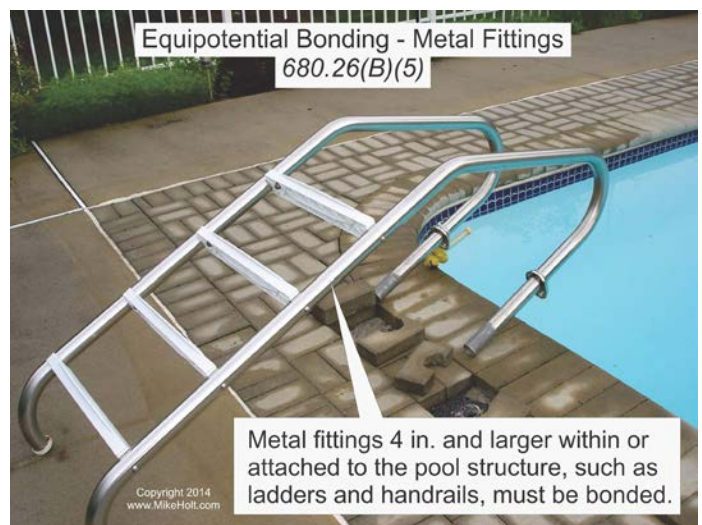

Figure 680-44
(3) Metallic Components. Metallic parts of the pool structure must be bonded to the equipotential grid.
(4) Underwater Metal Forming Shells. Metal forming shells and mounting brackets for no-niche luminaires and speakers must be bonded to the equipotential grid.
(5) Metal Fittings. Metal fittings 4 in. and larger located within or attached to the pool structure, such as ladders and handrails must be bonded to the equipotential grid. Figure 680-44